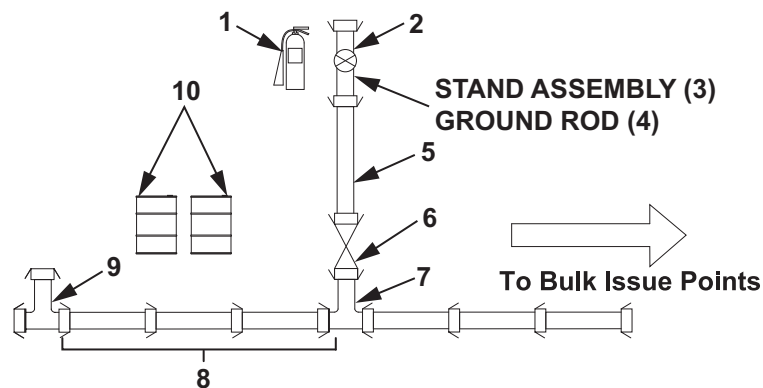

Figure 13. Installation of Issue Points Without D1 Nozzles.
2. Connect gate valve (Figure 13, Item 6) to the female X male X male tee assembly (Figure 13, Item 7) pointing towards the issue point.
4. Connect the section of 4 in. X 25 ft discharge hose (Figure 13, Item 5) to gate valve (Figure 13, Item 6).
6. Connect the butterfly valve (Figure 13, Item 2) to the section of 4 in. X 25 ft discharge hose (Figure 13, Item 5).
10. Position the stand assembly (Figure 13, Item 3) and fire extinguisher (Figure 13, Item 1) adjacent to the butterfly valve (Figure 13, Item 2).
11. Install the ground rod (Figure 13, Item 4) adjacent to the stand assembly (Figure 13, Item 3) per FM 10-67-1.
13. Connect the sections of 4 in. X 25 ft discharge hose (Figure 13, Item 8) to female X male X male tee assembly (Figure 13, Item 7).
15. Connect the female X male X male tee assembly (Figure 13, Item 9) to the end of 4 in. X 25 ft discharge hose (Figure 13, Item 8).
17. Place one fuel spill control kit (Figure 13, Item 10) near 4 in. X 25 ft discharge hoses (Figure 13, Item 8).